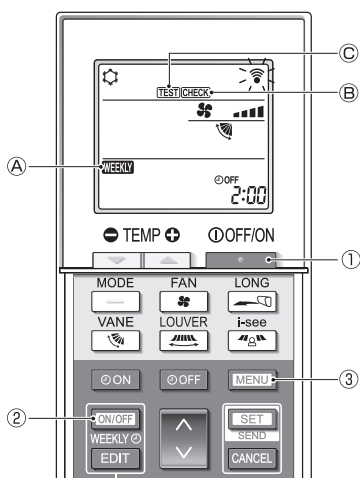
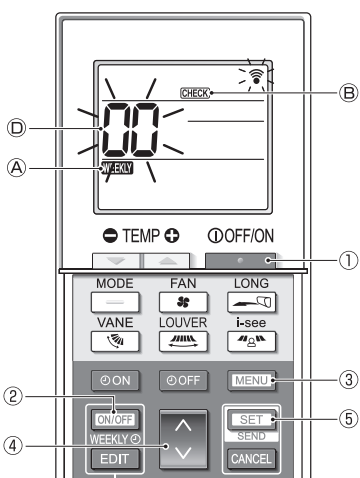

Fig. 5-1
Fig. 5-2
1. Testrun (Fig. 5-1)
- Press the **STOP** button ① to stop the air conditioner.
- If the weekly timer is enabled (**WEEKLY** ④ is on), press the **ON/OFF WEEKLY** button ② to disable it (**WEEKLY** ④ is off).
- Press the **MENU** button ③ for 5 seconds.
- CHECK** ⑤ comes on and the unit enters the service mode.
- Press the **MENU** button ③.
- TEST** ⑥ comes on and the unit enters the test run mode.
- Press the **STOP** button ① to stop the test run.
2. Self-check (Fig. 5-2)
- CHECK** ⑤ comes on and the unit enters the self-check mode.
- Press the **M-NET** button ④ to select the refrigerant address (M-NET address) ④ of the indoor unit for which you want to perform the self-check.
- Press the **SET** button ⑤.
- Press the **STOP** button ①.
- CHECK** ⑤ and the refrigerant address (M-NET address) ④ go off and the self-check is completed.